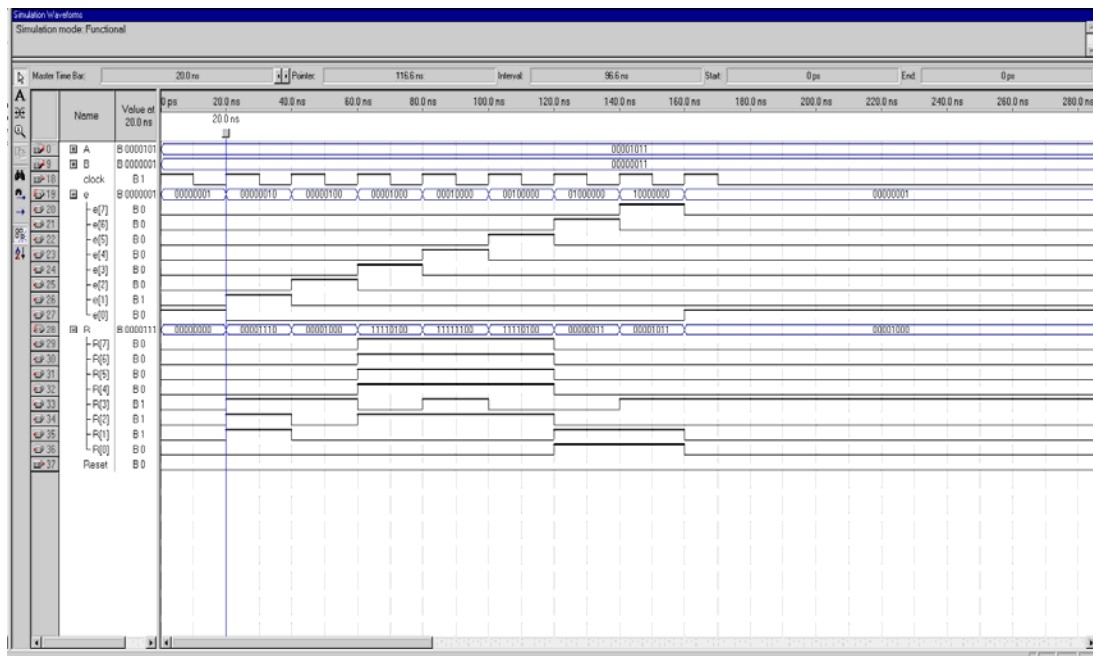

Figure4. The snapshot of a sample simulation result of the complete
- 2) Synthesize, simulate and verify the functionality of the complete processor circuit by generating the test bench waveform (A snapshot of a sample simulation result is given in Figure 4).